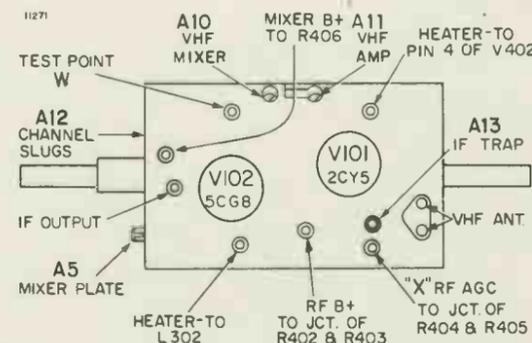

Figure 44. Top View of VHF Tuners 94E163-1 and -2 Showing Alignment Points and Adjustment Locations.
- See figures 44 or 45 or adjustment locations and identification.
- Connect oscilloscope through a 10K resistor to test point "W" on VHF tuner (figure 44). Keep scope leads away from chassis.